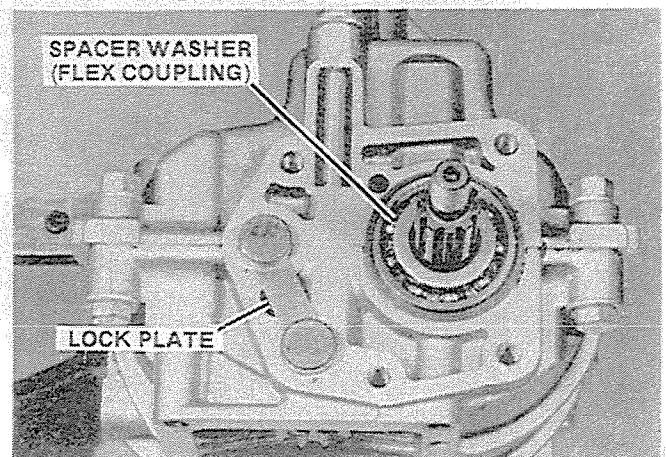
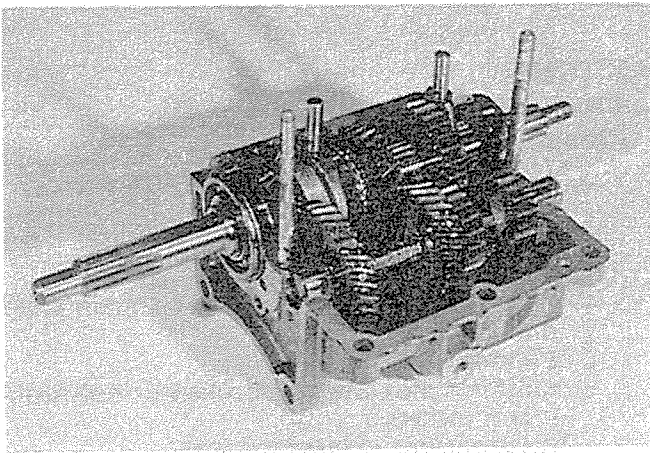

FIGURE 17
FIGURE 18
2. Position counter shaft and reverse idler shaft so that end slots are outside the rear of the case and facing each other. Figure 17. Lubricate all gears and bearings. Position shifter forks as shown in Figure 18.
8. Install countershaft and reverse idler shaft lockplate, Figure 17. The lockplate must be centered. Do not install rear bearing retainer.
11. Place a small amount of grease between the dual lips of the rear seal. Install coupling or driveshaft carefully so that the oil seal is not injured. Ascertain that spacer washer is installed between the rear bearing and coupling (Figure 17). Use flat washer and special lock nut. Torque to specifications. After the transmission is assembled, less the power take-off or side cover (for visual observation), make the following checks: